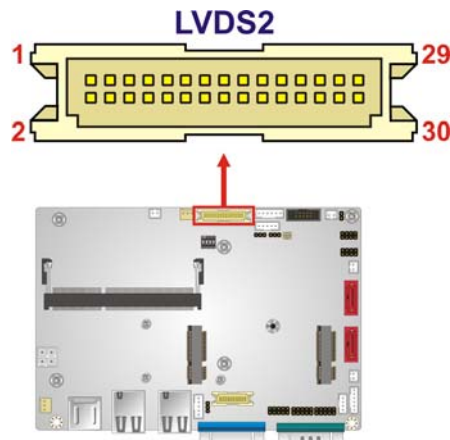

Figure 3-11: LVDS2 Connector Location
- CN Location:** See **Figure 3-11**